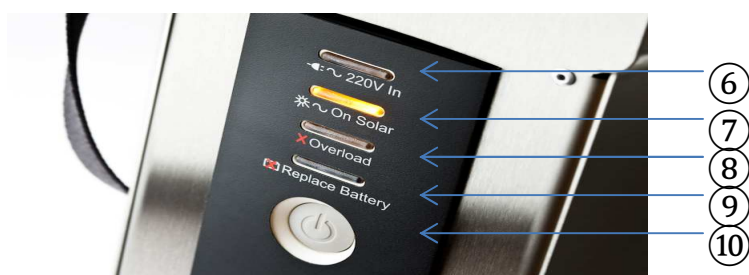

Figure 4
Figure 2 illustrates the solar panel (shown as ①) and the power (ON/OFF) switch (shown as ②). The side panel (warning and indicator panel) is shown in details in figure 4.
Figure 4 shows the warning and indicator panel. The uppermost indicator (⑥) is illuminated when the fast charger (④ in figure 3) is in operation. The indicator (⑦) is illuminated when a device is connected to the SOLENERGIBOX™ getting energy (230 V) from its battery. The indicator (⑧) is red when too powerful a device (typically more than 250 W) is connected to the SOLENERGIBOX™ causing overload. The indicator (⑨) tells when the in-built battery needs to be changed or there is an error with the battery. Switch (⑩ , also ② in figure 2) is the power (ON/OFF) button (press 1-2 seconds to switch ON or OFF).
Note, that when charging the SOLENERGIBOX™ from the sun it should be switched OFF, i.e. there shall be no lights in the warning and indicator panel (⑦ figure 4). This way the charging is faster and the power in the battery is not 'lost' at the same time.
The input connector (fast charger - ④ figure 3) is used for charging the SOLENERGIBOX™ without the sun and the solar panels, if you have 230 V mains available. When the SOLENERGIBOX™ is connected to the mains it needs to be switched ON and the green indicator '220 V In' (⑥ figure 4) will illuminate. It takes 6-8 hours to fully charge the battery from the mains. Remember to switch the SOLENERGIBOX™ OFF by pressing the power button for 1-2 seconds when the charging is complete.
and indicator panel (figure 4) of the SOLENERGIBOX™ the green indicator '220 V In' (⑥ figure 4) and the yellow indicator 'On solar' (⑦ figure 4) will start flashing simultaneously. After 4-6 seconds the green indicator will fade away while the yellow indicator will keep illuminating. This means that 230 V power is now available from the connector (③ figure 3). Just connect your device to the SOLENERGIBOX™.
If the connected device is using more than 250 W power, the red overload indicator will illuminate (⑧ figure 4) and the SOLENERGIBOX™ will automatically be switched OFF. Before switching the SOLENERGIBOX™ ON again disconnect the device causing overload and press thereafter the power button for 1-2 seconds.